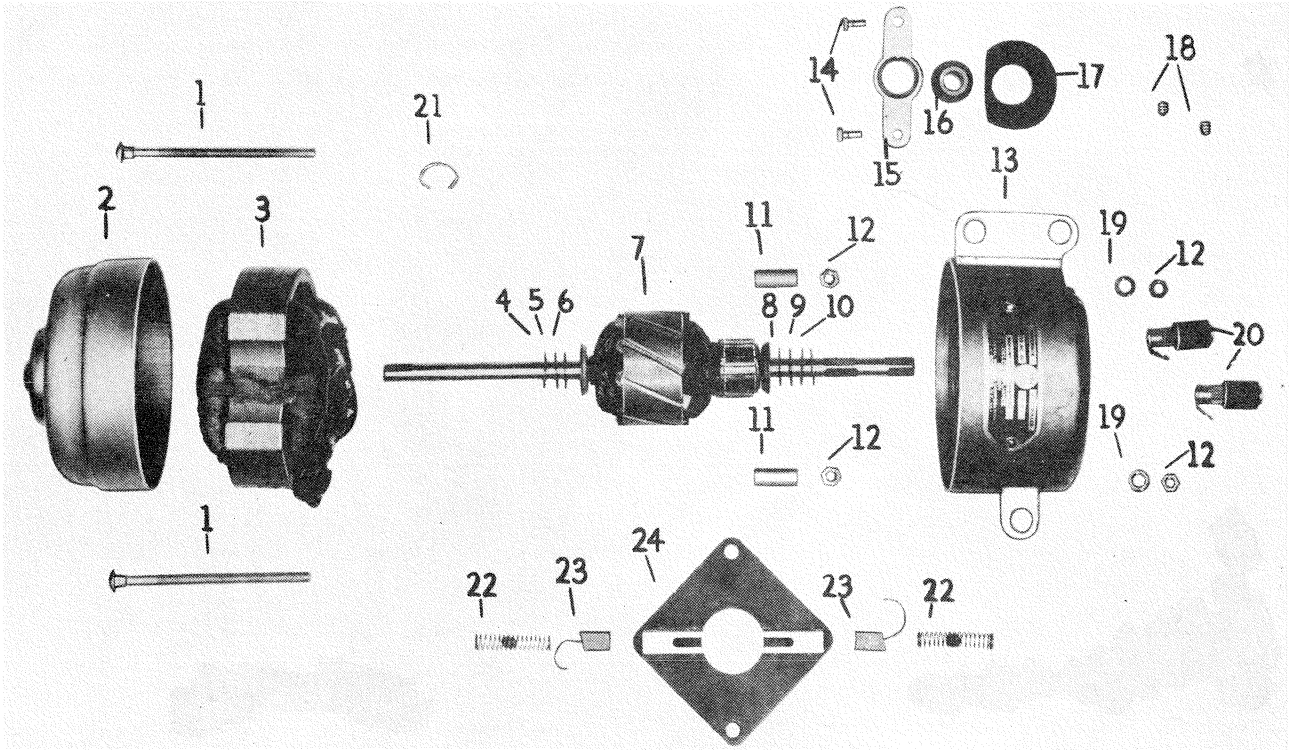
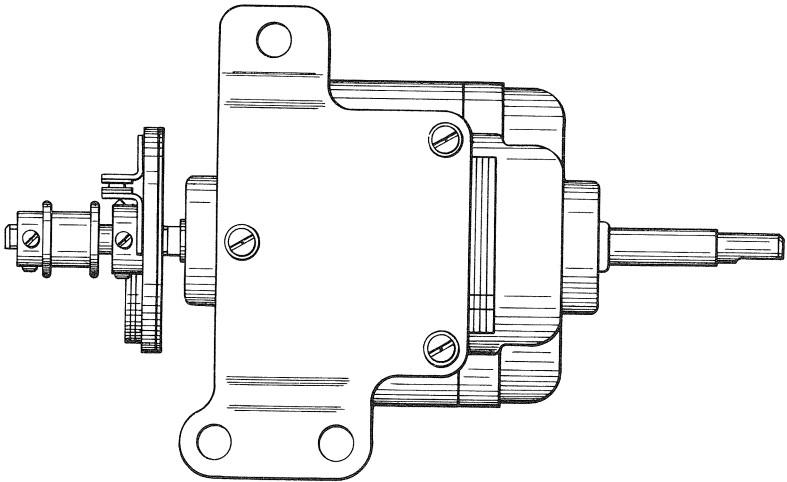

Figure 7. DELCO MOTOR
Figure 8. BODINE MOTOR WITH BRACKET
NOTE: Delco motor (Figure 7) is no longer available and is replaced by Bodine motor (Figure 8). Replacement parts for Delco motor are exhausted and will require replacing with Bodine motor.
(1) Delco Motor (Figure 7) - Loosen set screws on pulley and governor and remove pulley and governor. Remove motor brush caps and brush spring contact spacers. Remove motor brush and spring assemblies. Remove two tie bolt nuts (12), lockwashers (19), tie bolt (1) and staple (21). Separate rear case assembly (2) from commutator and housing (3). Note location of spacer washers (4, 5, 6, 8, 9 & 10) as they must be located in same order when reassembled. If necessary, remove motor commutator and bearing (16) by removing two rivets (14), bearing retainer (15) and oil wick (17). If necessary, remove motor brush and governor brush holders by loosening clamp screws and slide holder from housing.
(2) Bodine Motor (Figure 8) - Remove bracket secured by three screws and using Figure 7 as a guide, proceed as per Par. (1).